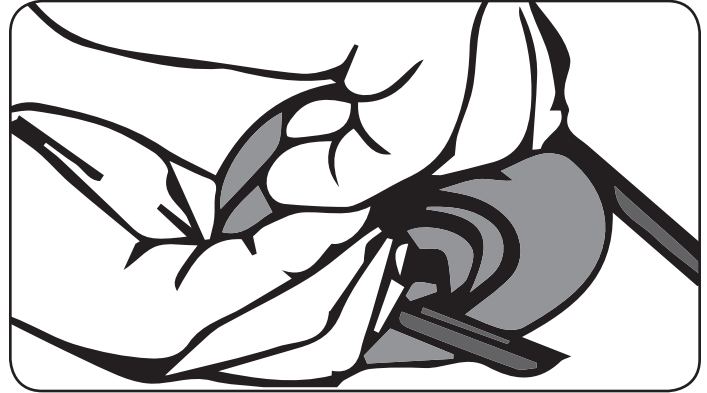

Figure 39
8. Pull the right side of the belt and place the narrow V side of the belt into the PTO pulley. See Figure 39.